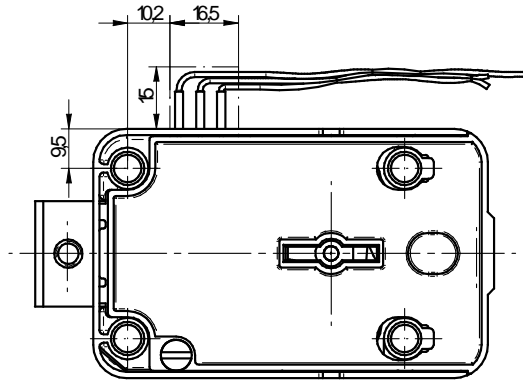

Fig 5: Keep clear area for cables
- In case of using the bolt switch (Option code RSK) it is important to keep the area clear shown in fig.5 to prevent the damage of the cables and the switch. The cables must not be buckled in the area of the heat shrink tubing. The cables have to be installed that they can not be damaged by moving parts (e.g. from boltwork) or sharp edges.